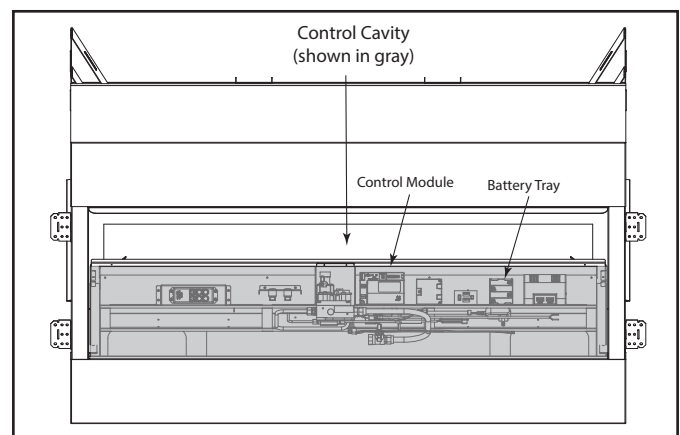

Figure 8.2– Control Cavity Location
The IntelliFire™ Plus ODS intermittent pilot ignition system comes with a battery backup system that enables the system to operate in a power outage. The system offers seamless transition from household AC power to battery backup. A factory-installed battery pack is located in the control cavity of the appliance. See Figure 8.2. Battery longevity and performance will be affected by long term exposure to the service temperatures of this appliance.
1. Access the control cavity of the appliance. See Figure 8.2 for location. Lift the screen frame off of the appliance and lift the access panel out of the front edge of the unit..
2. Locate the battery tray and insert four AA cell batteries. See Figure 8.2. Battery polarity must be correct or module damage will occur. A complete wiring diagram is included in the Electrical section of the appliance Installation Manual.